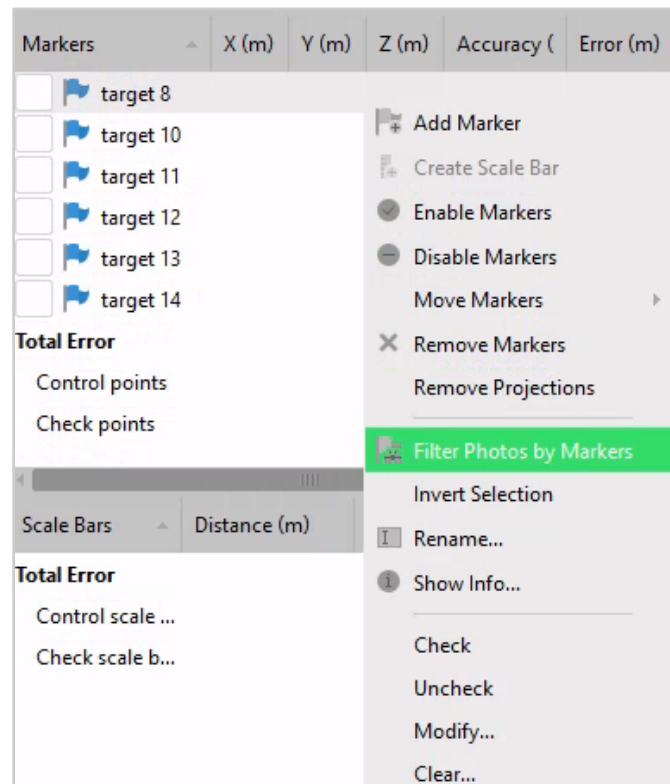

Figure 14. Context menu showing `Filter Photos by Markers` option.
3. Right-click on the first detected marker, and select `Filter Photos by Markers` from the context menu (Figure 14). All of the images that have the detected marker will appear in the Photos pane.